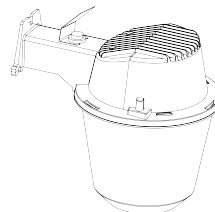

Fig. 10
Step 5: Tighten down the threaded ring to hold the light shield/reflector in place (Fig. 10).